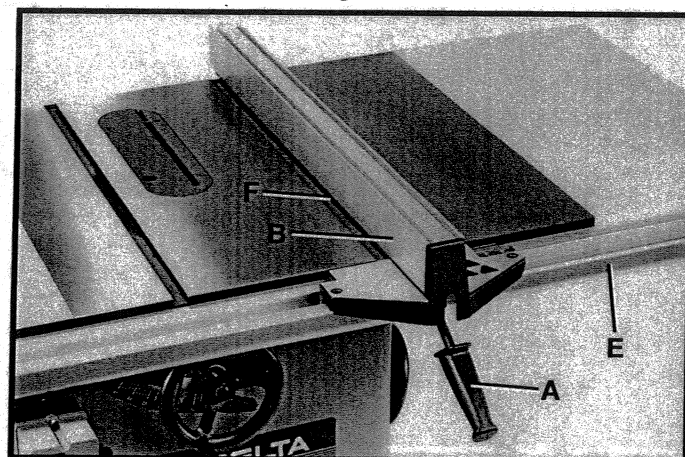

Fig. 28
2. Lower the front of the rip fence (B) Fig. 28, onto the front guide rail (E). Slide the rip fence (B) against one edge of the miter gage slot (F) as shown.
3. **IMPORTANT:** Clamp the fence onto the guide rail by pushing down on lock handle (A). The edge of rip fence (B) should line up so it is parallel to the miter gage slot (F).